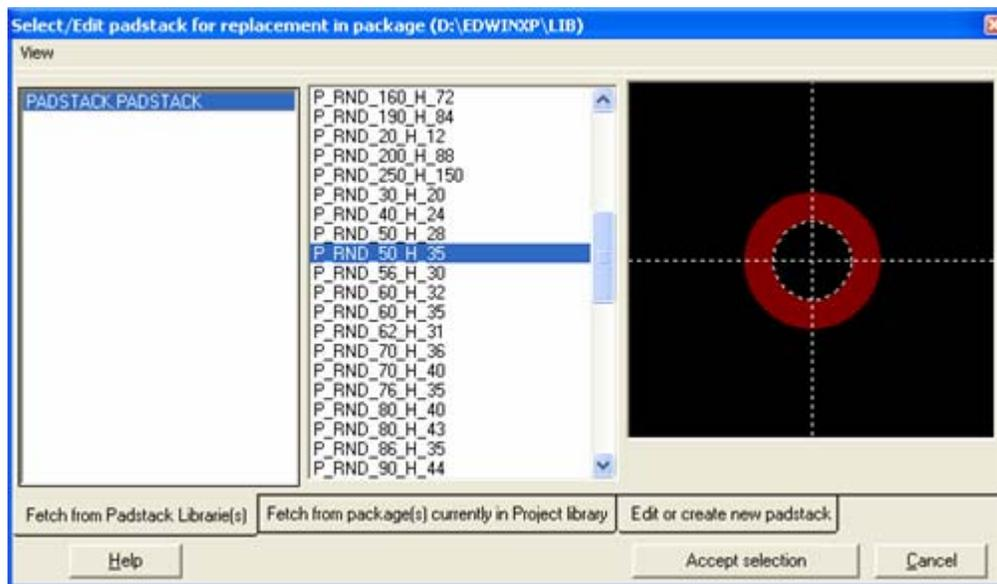

Fig. 3.15
**Padstack**  and its option tool **Select Padstack**  and click on the workspace to pop up a window as shown in Fig 3.15.